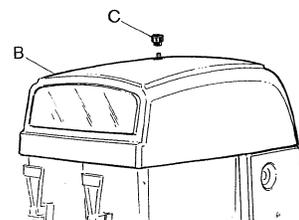

FIGURE 13
1. Remove the cover (B) FIGURE 13.